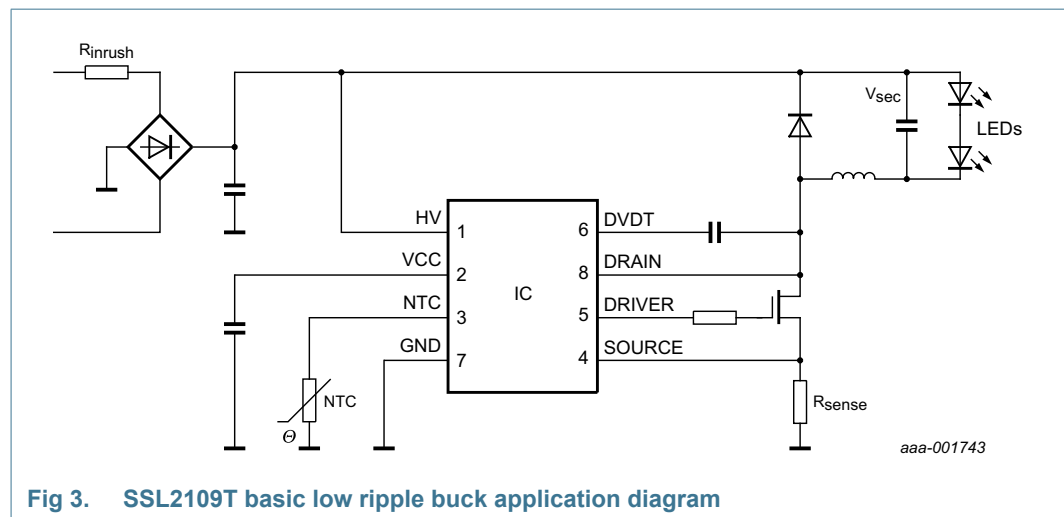
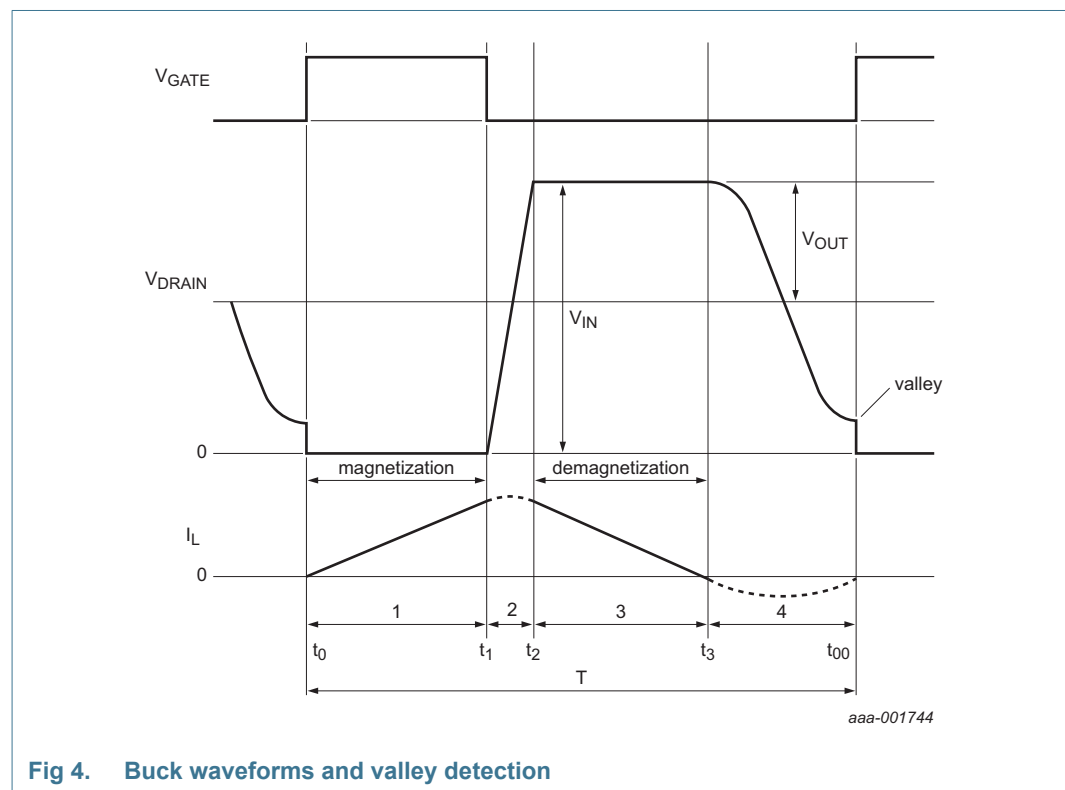

Fig 3. SSL2109T basic low ripple buck application diagram
Fig 4. Buck waveforms and valley detection
- Low component count LED driver solution (see Figure 3):
The converter in the SSL2109T is a Boundary Conduction Mode (BCM), peak current controlled system. Figure 3 shows the basic application diagram. Figure 4 shows the waveforms.
A new cycle is started when the primary switch is switched on (see Figure 4). In the following sections, “on” represents the conductive state and off the non-conductive state.